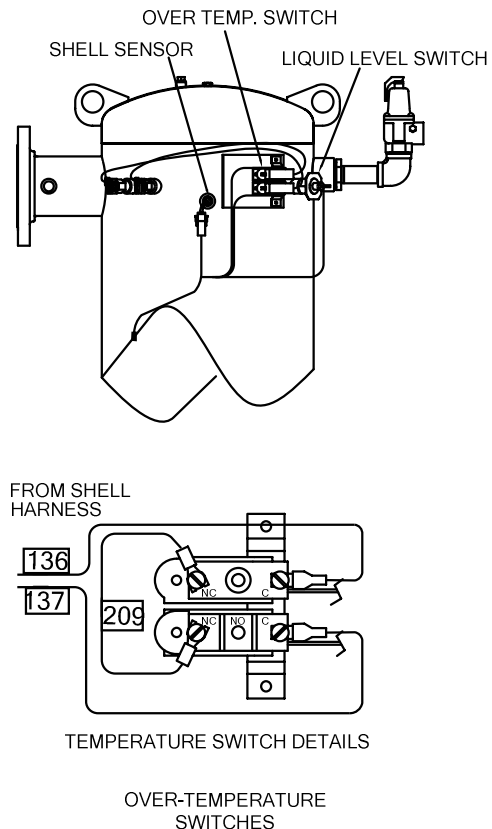

Figure 4.6
2. The two over-temperature limit switches are located at the top of the shell (see Fig. 4.6). Do not attempt to adjust the upper switch. It has been factory preset. Adjust the lower switch between 20°F to 40°F higher than the maximum header temperature the unit may see.